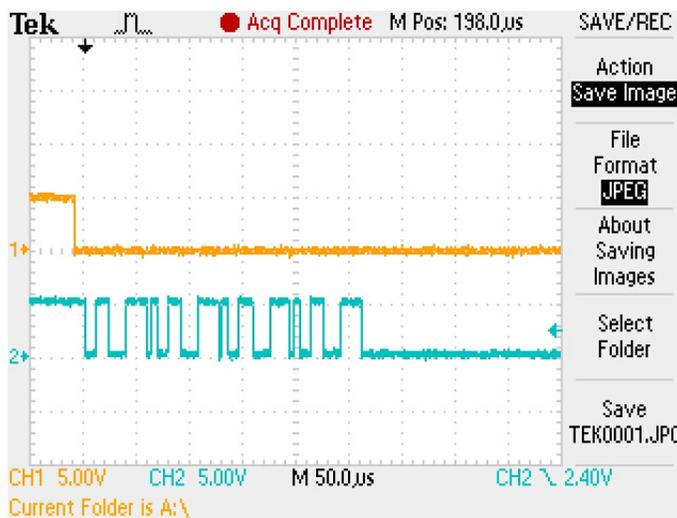

Figure 11. Queued Output Match
- Because another channel provided a trigger value via the ARU, as shown in Figure 11
- Once (Single-shot mode), as shown in Figure 11